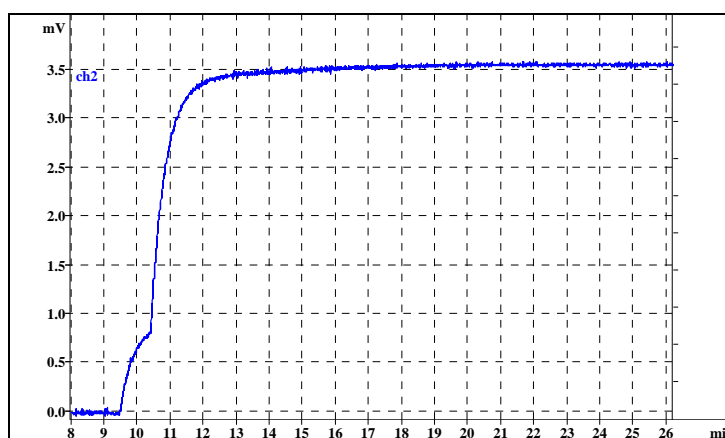

Figure 20. Example of a pressure trace recorded with ALEXYS data system software.
- Record the pressure profile for at least 20 minutes at the relevant flow rate (see example trace in figure 20). Check after 20 minutes if the back pressure is stable (pressure line running horizontally). Continue recording the pressure signal in case equilibrium is not yet reached.
- Record the pressure profile for at least 20 minutes at the relevant flow rate (see example trace in figure 20). Check after 20 minutes if the back pressure is stabile (pressure line running horizontally). Continue recording the pressure signal in case equilibrium is not yet reached.